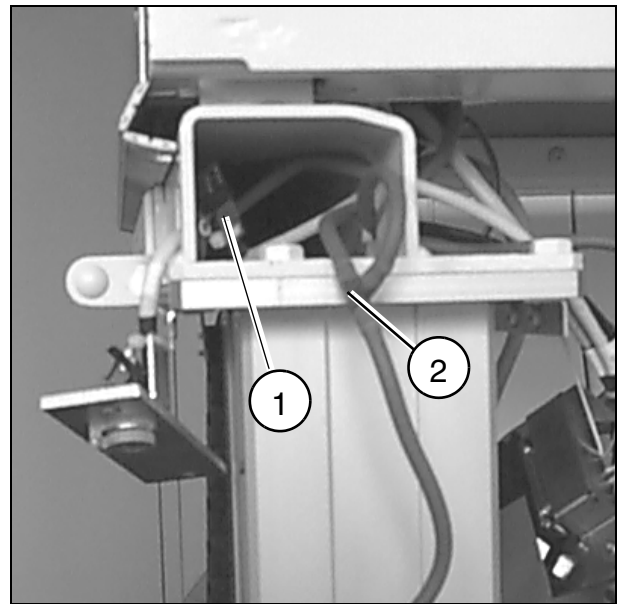

Fig. 2
- Route cable D27.X1 from the table edge to the front (1/Fig. 2).
- Check that the hose with the T-connector is routed according to the illustration (2/Fig. 2). If not, place the angle bracket on the hose, as shown in the figure.